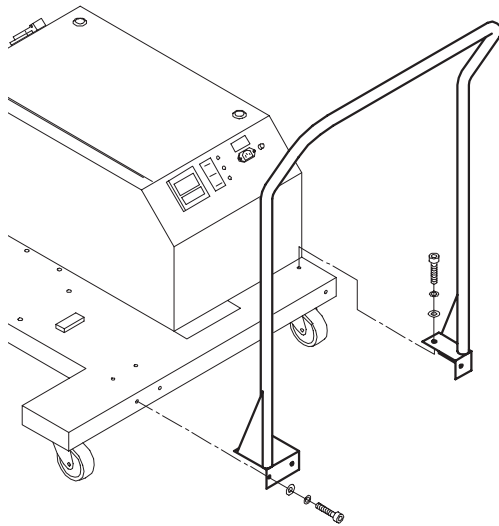

Fig. 1
2. Set up the Handle on the Platform (Fig. 1).